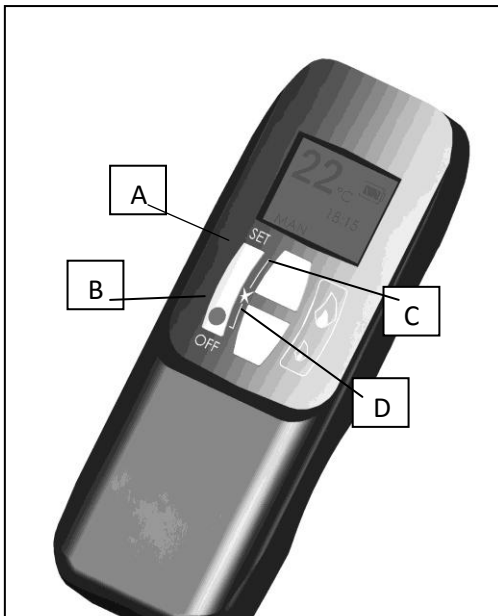
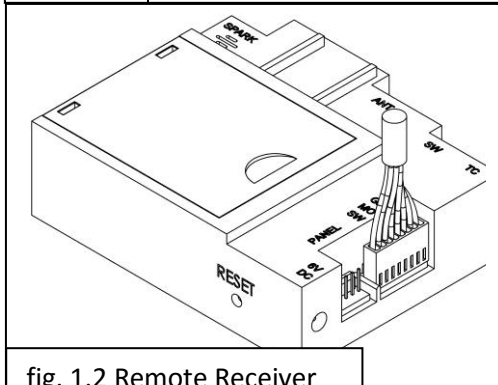
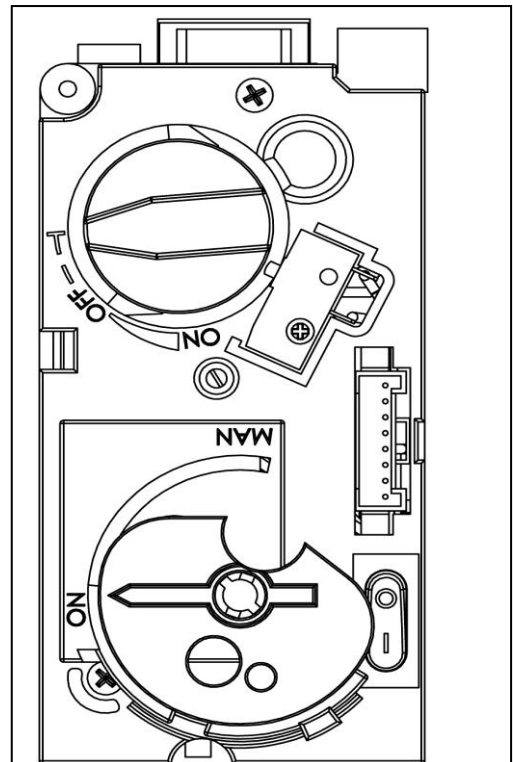

fig. 1.1 Remote Handset
fig. 1.2 Remote Receiver
fig. 1.3 Gas Control Valve
This Nestor Martin Gas Appliance has been constructed with an advanced remote control system. This consists of three main parts; Handset (fig. 1.1), Receiver (fig. 1.2) and Gas Valve with Manual Override (fig. 1.3). The Gas control valve and the Receiver are behind the access door. This is also where the product Data Label is located.
Within the next twenty seconds press the down button (Button D fig 1.1) on the remote handset until you hear an additional long signal confirming the code is set.
To be able to use the Remote control Handset (fig. 1.1), the rocker switch on the Gas Valve, must be turned "ON" (the "1" position) and the manual Dial set to the "On" position.
Press the OFF button (Button B fig. 1.1) on the Handset. This will extinguish all Burners including Pilot.
Note:- Repeated presses of the small flame (Button D fig. 1.1) will turn the main burner OFF, but will leave the Pilot alight.
To increase the flame height; press the large flame button (Button C fig. 1.1).
To decrease the flame height; press the small flame button (Button D fig. 1.1).
Simultaneously press OFF and Small Flame buttons (buttons B & D fig. 1.1) until display changes from Fahrenheit/12 hour clock to Celsius/24 hour clock and vice versa.
- b. Simultaneously pressing the Large Flame Button and Small Flame Button (buttons C & D fig. 1.1)
Press the Large Flame button (button C fig. 1.1) to set the hour.
Press the Small Flame button (button D fig. 1.1) to set the minutes.
Press OFF (button B fig. 1.1) to return to standard operating mode or simply wait and it will return to standard mode after approximately 15 seconds.